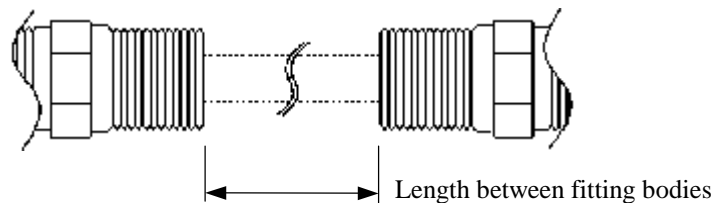

Figure 3. Length between fitting bodies
- The standard cut length means the length between bodies (Figure 3) plus the additional length (Table 1). When the tube is anchored at its both ends or used in high temperature conditions, choose the cut length according to the instructions shown above.